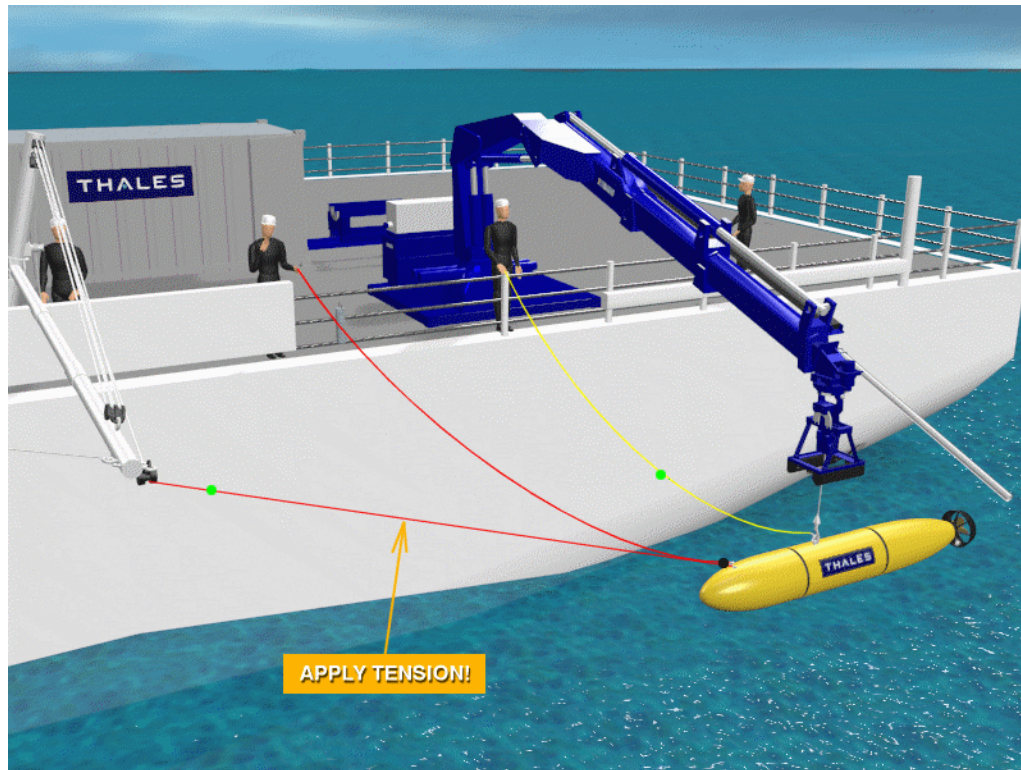

Figure 4-16
21. When the AUV is at the crest of a wave or just as the CT winch cable starts to be paid out, commence hoisting by canceling CT and lifting the AUV at maximum speed. Maintain tow line tension during hoisting (Figure 4-16 above). **Note: The winch must be in the maximum tension position when canceling CT for a smooth transition.**